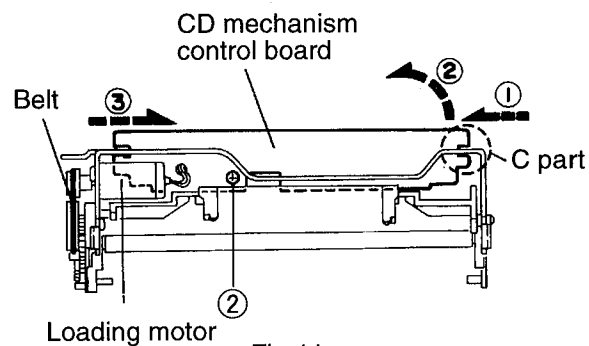

Fig.11
nism control P.C.board(See Fig. 11).
to ③ in the arrow direction as shown in Fig. 11.